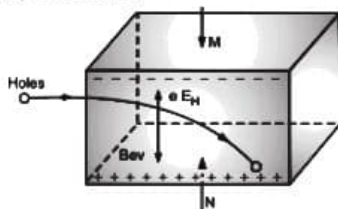

Fig. 5.29 : Motion of holes in p-type semiconductor
- The Hall voltage V_H is measured by placing two probes at the centres of the top and bottom faces of the sample as shown in Fig. 5.29. If \vec{B} is the magnetic flux density, then